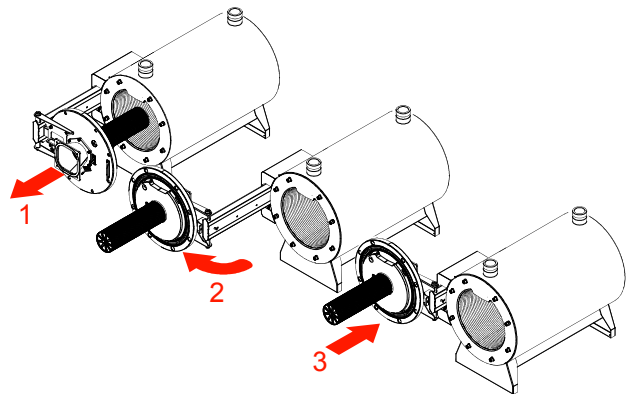

Figure 27: Burner Door Opening
- d. This unit is equipped with a sliding mechanism shown in Figure 27. Position (1) the burner assembly slides out of the combustion chamber, (2) rotate away from the combustion chamber and (3) sliding back to allow full access to the combustion chamber for inspection and service.